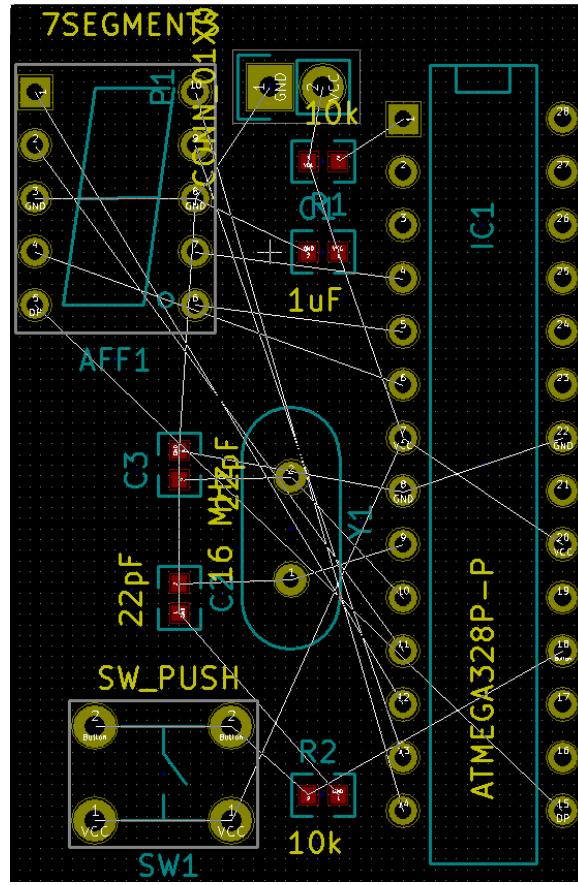

Figure 25: Component arrangement for the Arduino dice PCB.
- d) Let’s tentatively arrange the components as shown in Fig. 25.